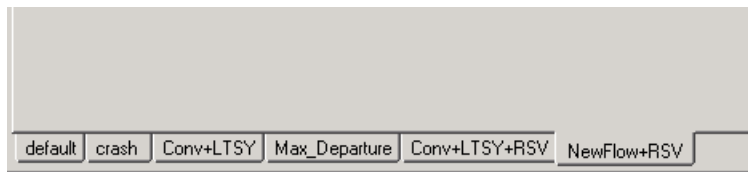

Figure 32: Rulesets to have used by the end of tutorial 3.
3.4.7 Ensure that you currently have the *Rulesets* from figure 32 in your model.